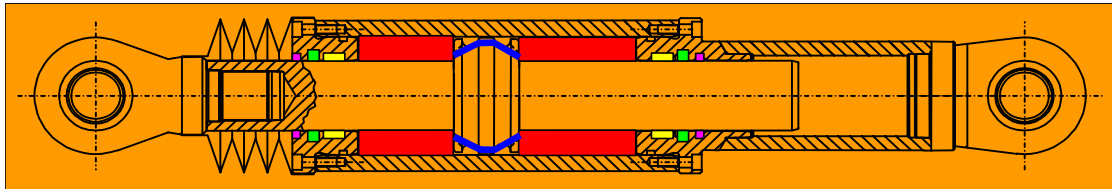

Fig. 40: Section through the MHD
MHDs are devices (Fig. 40), which enable displacements (thermal changes, creep, shrinkage, etc.) during service conditions without creating significant response forces, but dissipate huge amounts of energy during sudden appearance of vibrations, and the vibration energy is been converted into heat.
- The devices are not prone to leaking, as a special high strength and wear resistant hydraulic seal-system is applied - like for Caterpillars, for automobile industry and similar machineries. On request prove tests are carried out. The MHD has got a 3-step seal-system consisting of a guide ring (guiding the piston and carrying the piston weight => yellow in Fig. 40), of the real seal (sealing the piston effectively against leaking => green in Fig. 40) and the dust brush (protecting the seal from fine dust => pink in Fig. 40).